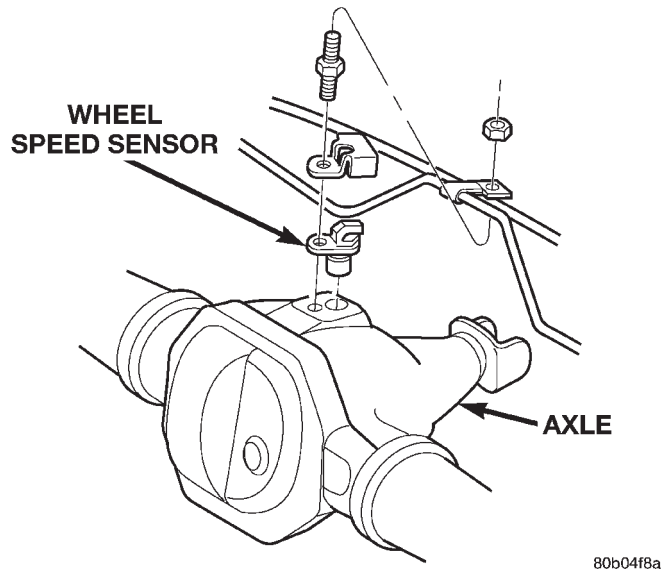

Fig. 10 Rear Speed Sensor Mounting
(1) Raise vehicle on hoist.
(2) Remove brake line mounting nut and remove the brake line from the sensor stud.
(3) Remove mounting stud from the sensor and shield (Fig. 10).
(4) Remove sensor and shield from differential housing.
(5) Disconnect sensor wire harness and remove sensor.